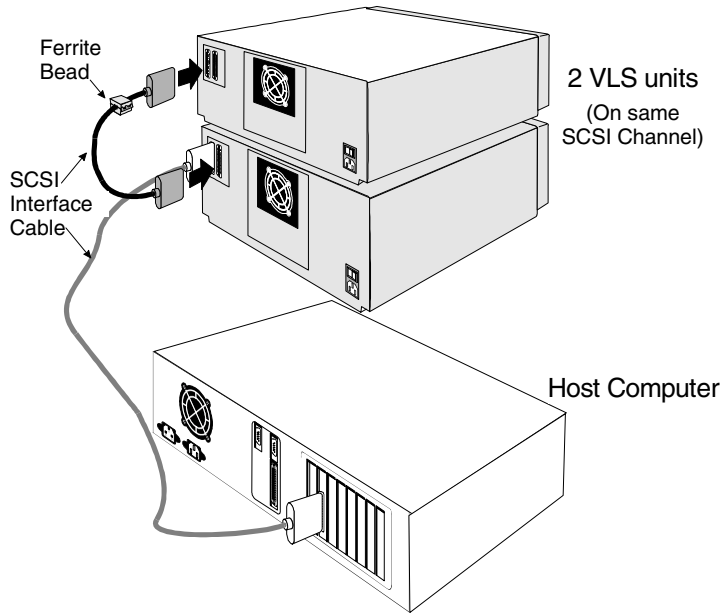

Figure 23 Installing the Ferrite Bead
- ❑ Clip the clamp-on bead on the cable at any point between the two units. Refer to Figure 23.